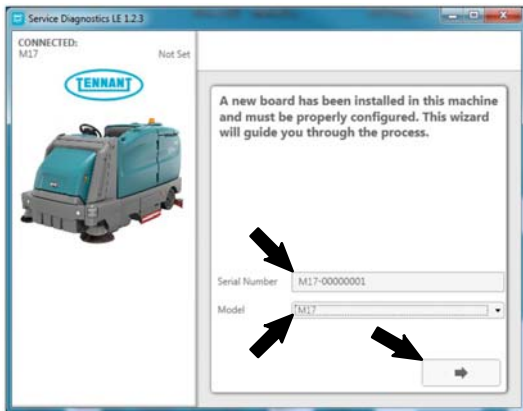

FIG. 16
- The following screen appears when the application software is connected to machine (Fig. 16). Enter the machine serial number from the label on machine (ex. M17-12345678). Select the appropriate model from the drop-down menu. Press the arrow button to advance to next screen.